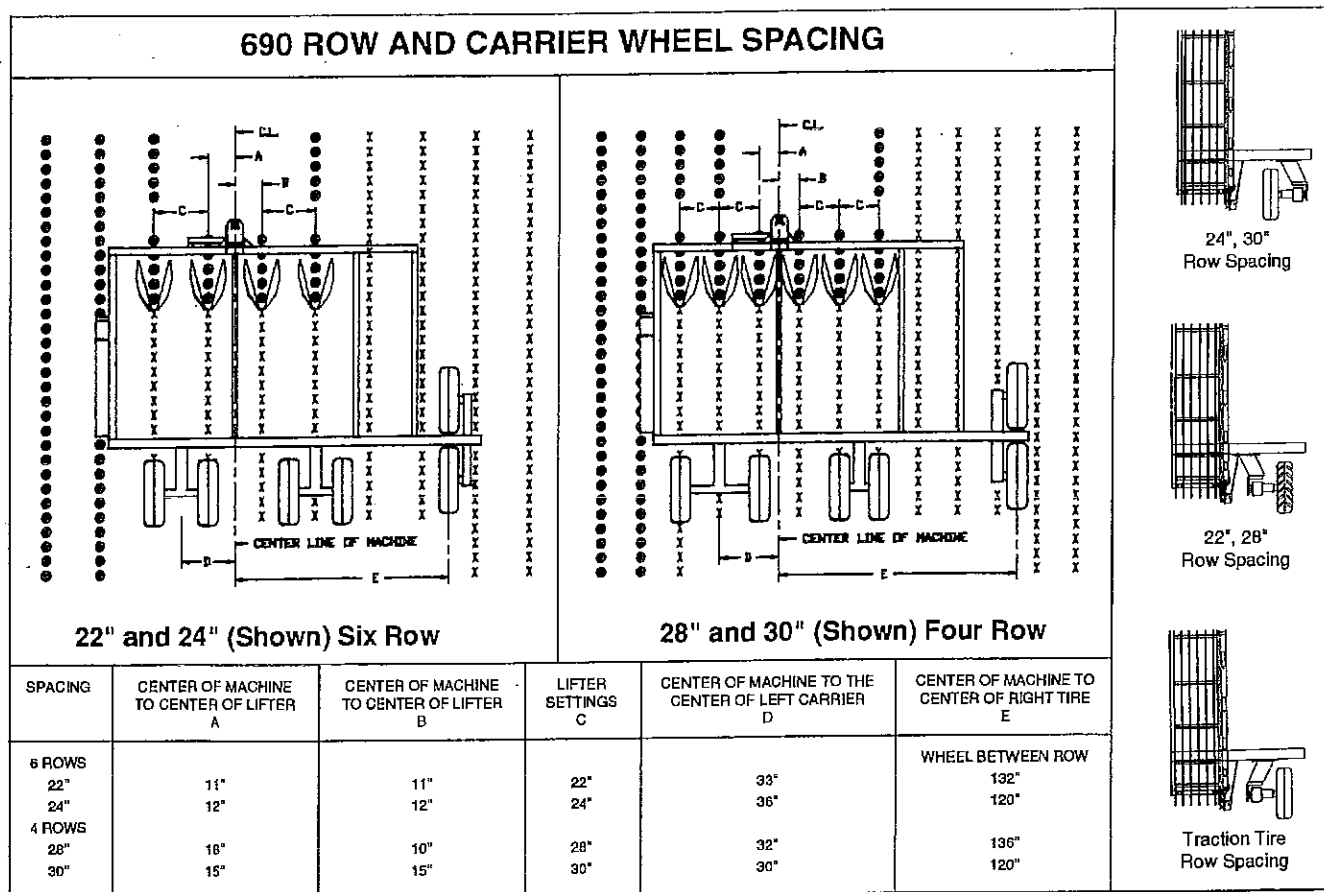
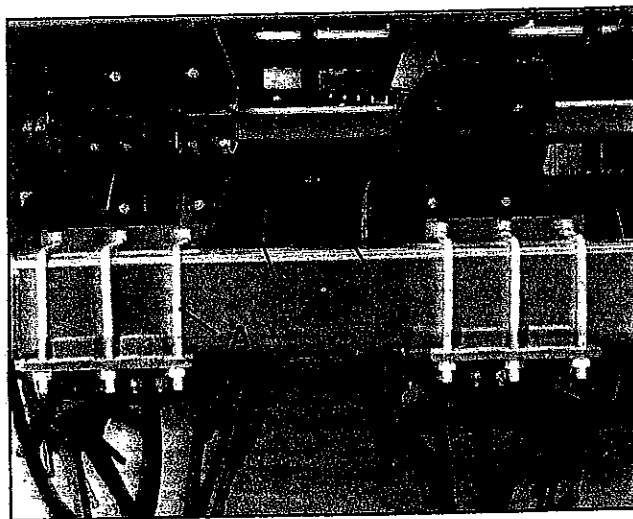

FIGURE 9 - ROW AND CARRIER WHEEL SPACING
FIGURE 16 - LIFTER WHEEL SPACING
Use Figure 9 to determine settings for lifter wheels. Make all measurements for setting lifter wheels from the centerline of the front of the machine to the pinch
After adjusting the lifter wheels, see Figure 9 to set the rear carrier wheels.
It is recommended that the left carrier wheel be set to run in the far left dug row. The right wheels may be set to run in a dug row (except for opening new lands or irrigated field). Steerable struts are usually set-up to straddle a row. Figure 9 shows the wheels straddling the row. If the wheel setting desired is different than Figure 9, subtract or add the appropriate half row space from the dimension given. Position the left carrier wheels first.
To adjust lifter wheel row widths (see Figure 16), loosen strut mounting bolts (A), paddle bolts (B), and the bolts holding the barriers (C). Slide all to proper row spacing (see Figure 9, page 10 for dimensions). Tighten all bolts equally. Be sure all bolts are torqued correctly (see torque guide on page 47).